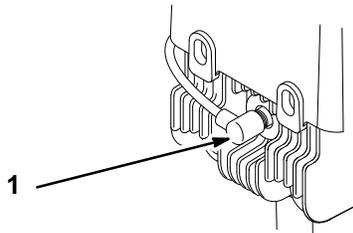

Figure 7
4. Connect the spark plug wire (if disconnected) (Fig. 7).